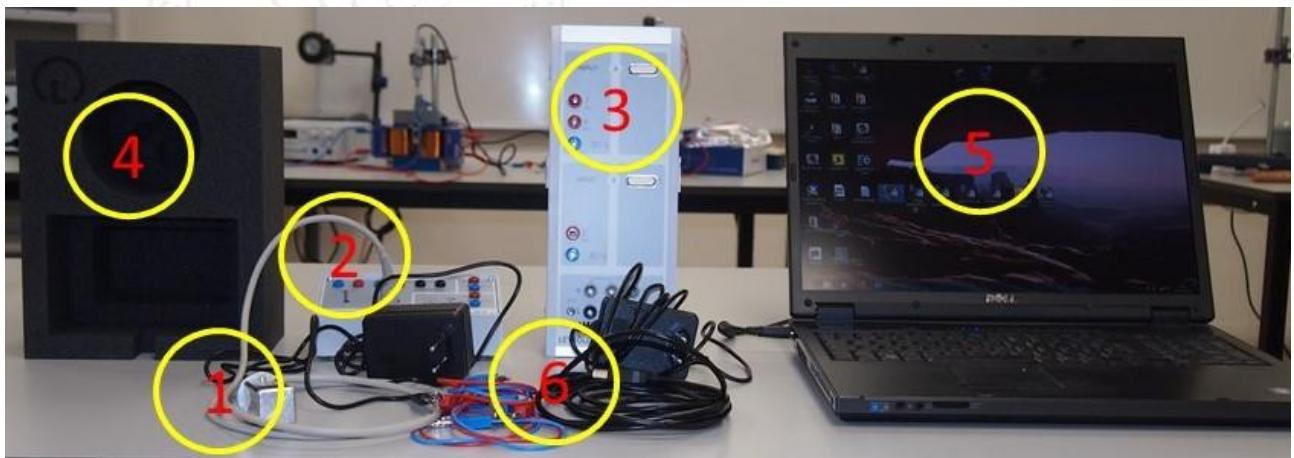

Figure 1. Equipment of the practice.
The integrated measuring module, (1) in Figure 1, contains the superconductor ($\text{YBa}_2\text{Cu}_3\text{O}_7$) and a platinum thermal resistor to measure the temperature. A highly stable current of 140 mA is applied between the ends of the superconductor. During the experiment the voltage drop between the ends of the superconductor is measured. According to the Ohm's law, the